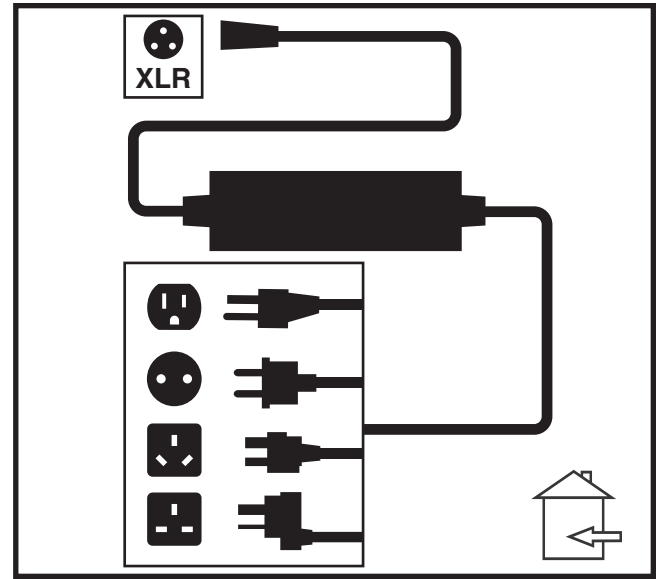

Figure 19. Battery Charging
3. Plug the off-board charger into the off-board charger/programming socket on the controller. **See figure 19.**